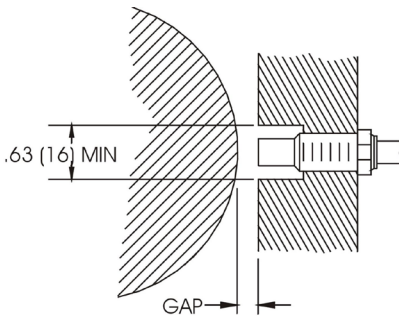

FIGURE 1
1. The standard probe configurations are shown on page 6. However, other probe configurations can be supplied on special order. For vibration measurements, mount the probe with its axis radial to the shaft, and with its tip approximately 0.050" (1.25 mm) from the surface of the shaft (see Fig. 1). Refer to CALIBRATION for exact gapping procedure. For axial position measurements, mount the probe with its axis parallel to the shaft axis and 0.050" from the end of the shaft. If the center of the shaft is countersunk, the probe should be mounted off center but with its axis no closer to the edge of the shaft than 1.5 X the probe tip diameter. To prevent crossfeed between any two probes mounted in the same vicinity, at least 1" (2.5 cm) spacing between the probe tips should be maintained (see Fig. 2). The probe tip must be provided with sufficient clearance from surrounding metal to prevent an erroneous output. As a minimum, the radial clearance diameter should be twice the probe tip diameter for the full length of the probe tip (see Fig. 1).